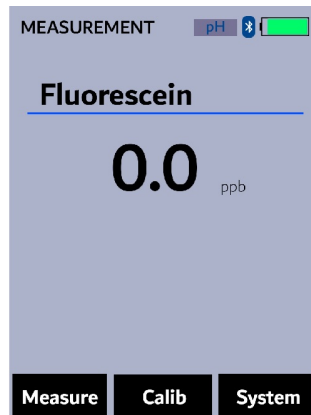

Figure 7.
4. Press **OK** to launch the **FLUORESCIN MEASUREMENT** screen (Figure 7).